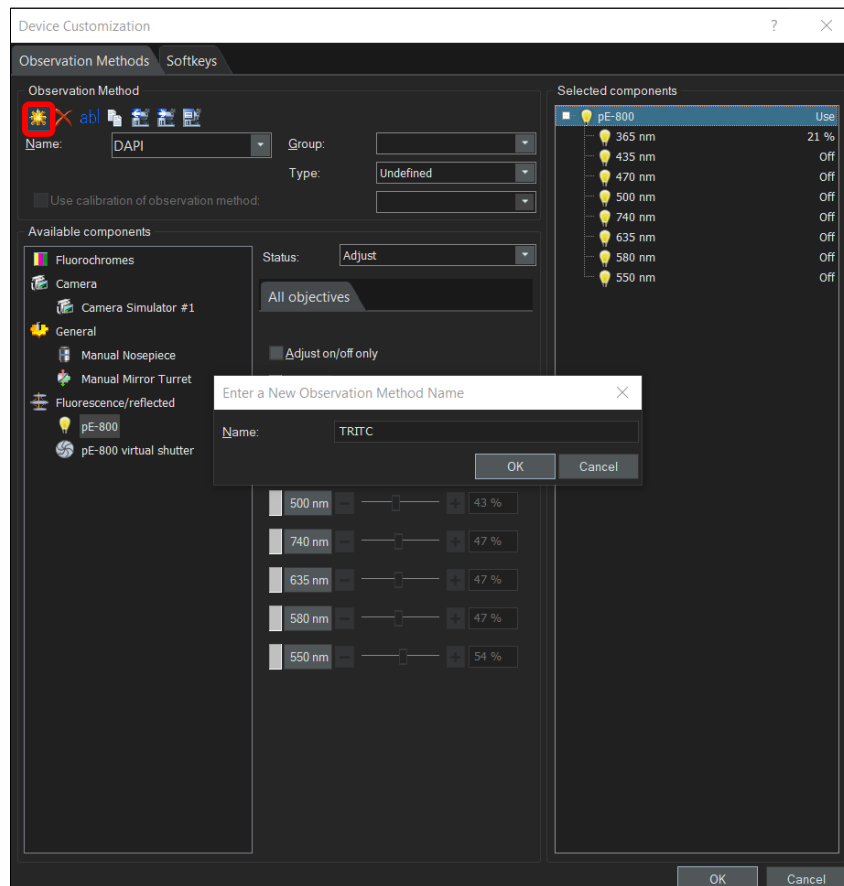

Figure 9: Creating and naming a new 'Observation Method' in the 'Device Customization' window
2. In the 'Device Customization' window, create and name new 'Observation Method' by clicking the icon in the top left corner (see Figure 9, red box), and enter a new name.